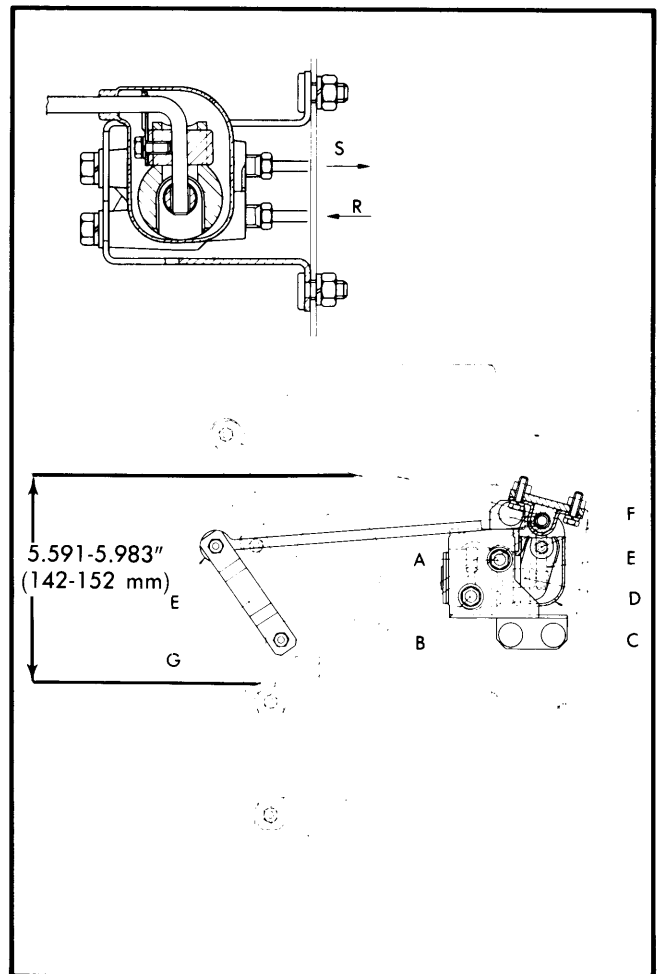

Fig. 2 Brake Pressure Regulator Measurement and Adjustment Points for Spider 2000
Spider 2000 — 1) Bring end of torsion bar (E) to distance shown in Fig. 2 from buffer resting surface. Use a jack to raise body to gain appropriate height, or place weight in passenger seat before tightening.
2) Lift dust boot (C) and check contact of regulator piston (D) with torsion bar end (E).
3) Pivot regulator body on screw (A) until piston (D) is just touching torsion bar end (E).
4) First, tighten screw (B) and then screw (A) in all the way. Connect link (G) to torsion bar eye end (E) with screw and nut while inserting rubber bushings and spacer.